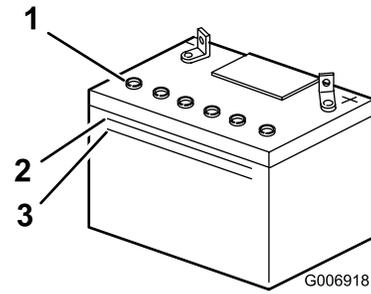

Figure 36
- Look at the side of the battery. The electrolyte must be up to the Upper line (Figure 36).
Note: Do not allow the electrolyte to fall below the Lower line (Figure 36).
- Remove the vent caps from the battery (Figure 36).
- Slowly pour distilled water into each battery cell until the electrolyte level is up to the Upper line (Figure 36) on the battery case.
5. Wait 5 to 10 minutes after filling the battery cells. Add distilled water, if necessary, until the electrolyte level is up to the Upper line (Figure 36) on the battery case.